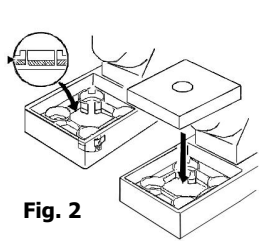

Fig. 2
2. Dampen the cleaning sponge with water, squeeze it dry and place it in its base. (Fig. 2)